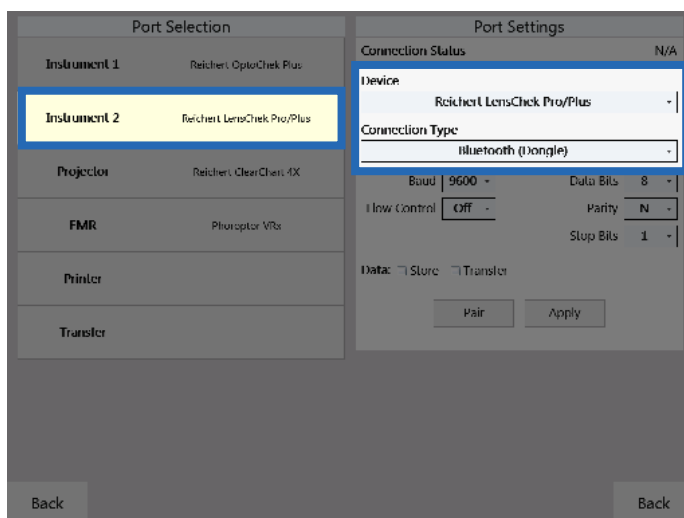

Figure IS-10, Port Settings Screen
3. In the Port Selection panel, tap the port being configured (e.g., Projector, Instrument 1, etc). Refer to Figure IS-10.
4. In the Port Settings panel, select the device being connected from the drop-down menu. Refer to Figure IS-10.
5. Set the Connection Type to **Bluetooth (Dongle)**. Refer to Figure IS-10.